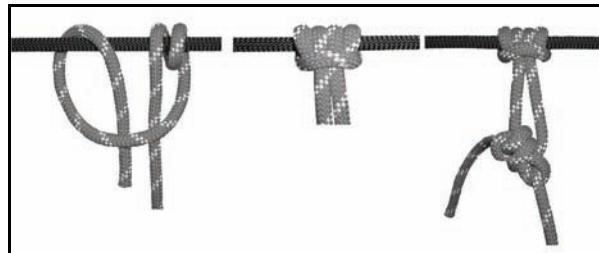

Figure 5-20. End-of-the-rope Prusik knot.
(2) **End-of-the-Rope Prusik knot** (Figure 5-20).